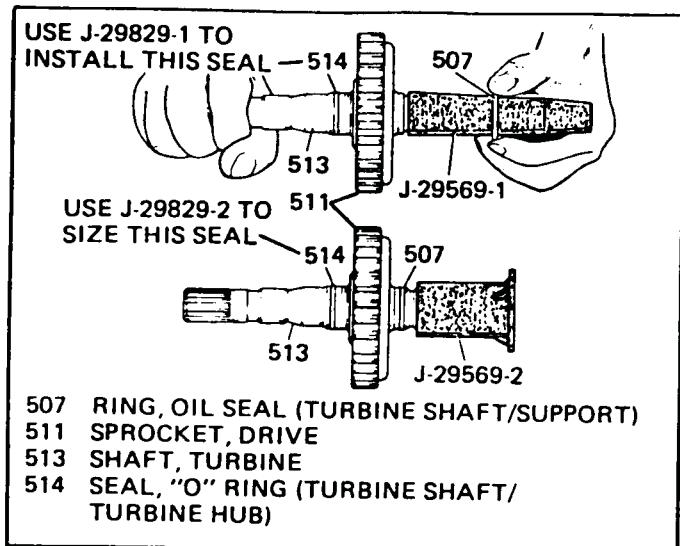

Figure 88
2. Place J-29569-1 or J-29829-1 over the turbine shaft as shown in Figure 88, and coat with petrolatum.
5. Re-size seals with J-29569-2 or J-29829-2, as shown in Figure 88.